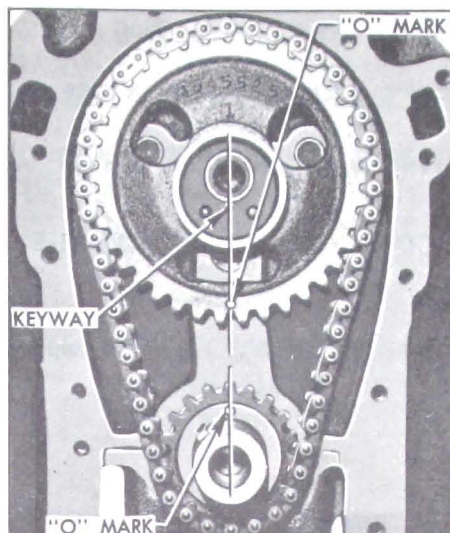

Figure 2-26—Timing Chain and Sprockets Properly Installed
4. If there has been doubt about the valve timing, turn crankshaft until the camshaft sprocket keyway is straight down toward the crankshaft and the "O" timing marks on both sprockets are toward each other and in line with shaft centers. See Figure 2-26.
sprocket key points straight down toward crankshaft. See Figure 2-26.
8. Place timing chain over the camshaft and crankshaft sprockets so that the "O" marks stamped on front faces of sprockets are nearest each other and aligned between the sprocket hubs. Install sprockets with chain on the two shafts. See Figure 2-26.